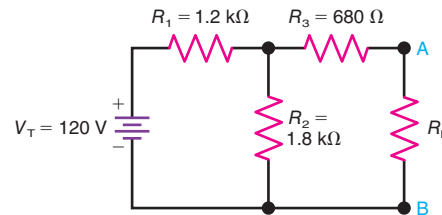

Figure 8-20
8.12 In Fig. 8-20, use the Thevenin equivalent circuit to calculate I_L and V_L for the following values of R_L ; $R_L = 100\ \Omega$ and $R_L = 5.6\ \text{k}\Omega$.